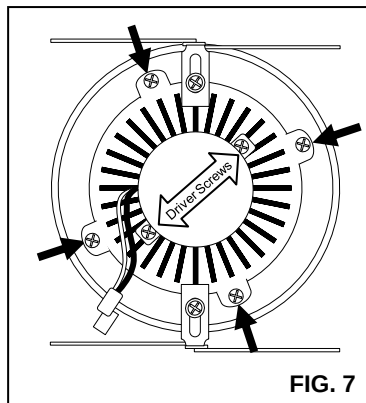

FIG. 7
4. Remove the DRIVER SCREWS and separate the old LED DRIVER from the CAST HEAT SINK. **(FIG. 7)**
6. Mount the new LED DRIVER onto the CAST HEAT SINK using the previously removed DRIVER SCREWS. **(FIG. 7)**